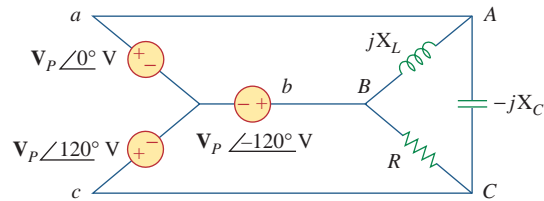

Figure 12.63
12.56 Using Fig. 12.63, design a problem to help other students to better understand unbalanced three-phase systems.